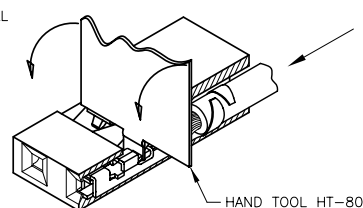

FIGURE 2
- TO REMOVE TERMINAL; PUSH TERMINAL FOWARD, LIFT LATCH WITH HAND TOOL AS SHOWN IN FIGURES 2 & 3. DAMAGE TO LATCH MAY OCCUR IF LIFTED MORE THAN A 25° ANGLE TO TOP OF HOUSING.